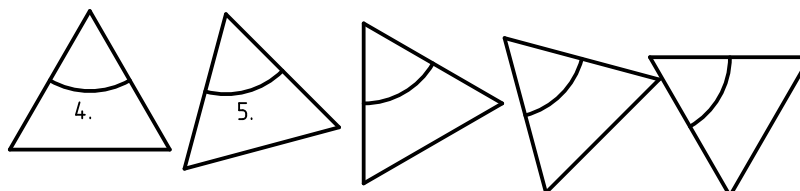

Figure 54: Move and Rotate reference point (4.) and target point (5.).
5. Set the target point. To move the selected entities by a given amount, e.g. by 50 to the right, enter @50,0 in the command line. In Figure 54, the two reference points are labeled. The rotation angle in the example is 15 degrees and the number of copies four. This results in a total rotation angle of 60 degrees.